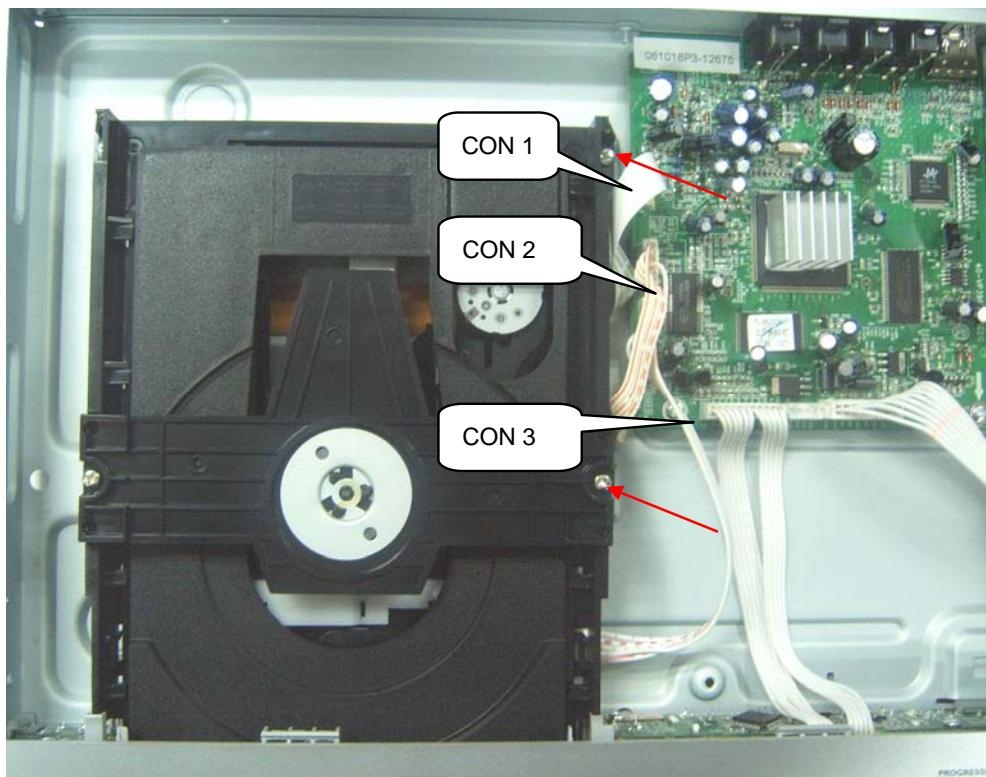

Figure 4
**Step4:** Dismantling Loader, disconnect the 3 connectors aiming in the below figure, and remove 4 screws around the Loader. (Figure 4)